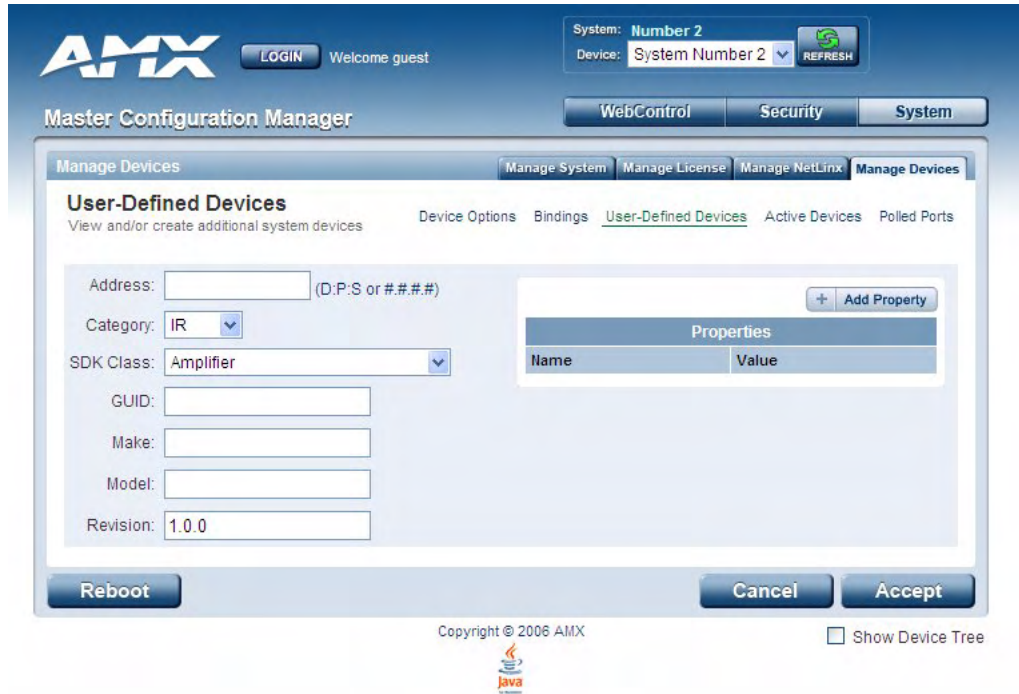

FIG. 51 User-Defined Devices - Add User Defined Device
1. Click the **Add Device** button (in the User-Defined Devices page) to access the **Add User Defined Device** page (FIG. 51):